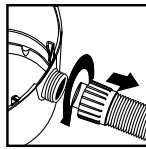

FIGURE 19
29. Unscrew hose locking-nut and remove hose from inlet. **FIGURE 19.**